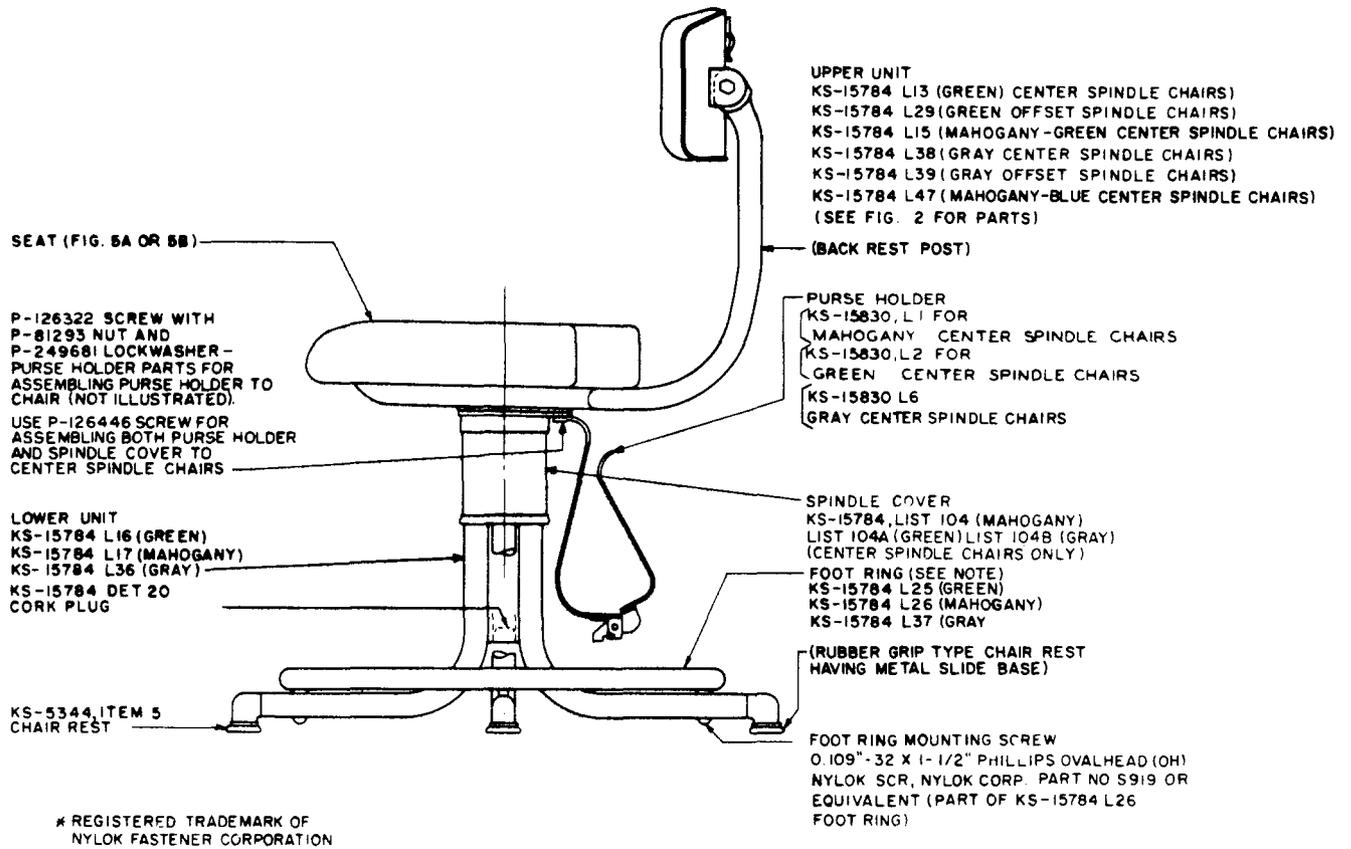

Fig. 1—Replacement Part Information for KS-15784, 18-Inch Operator Chairs
2.01 Figures 1 through 7 show replacement parts of the chair as listed by the Western Electric Merchandise Department.